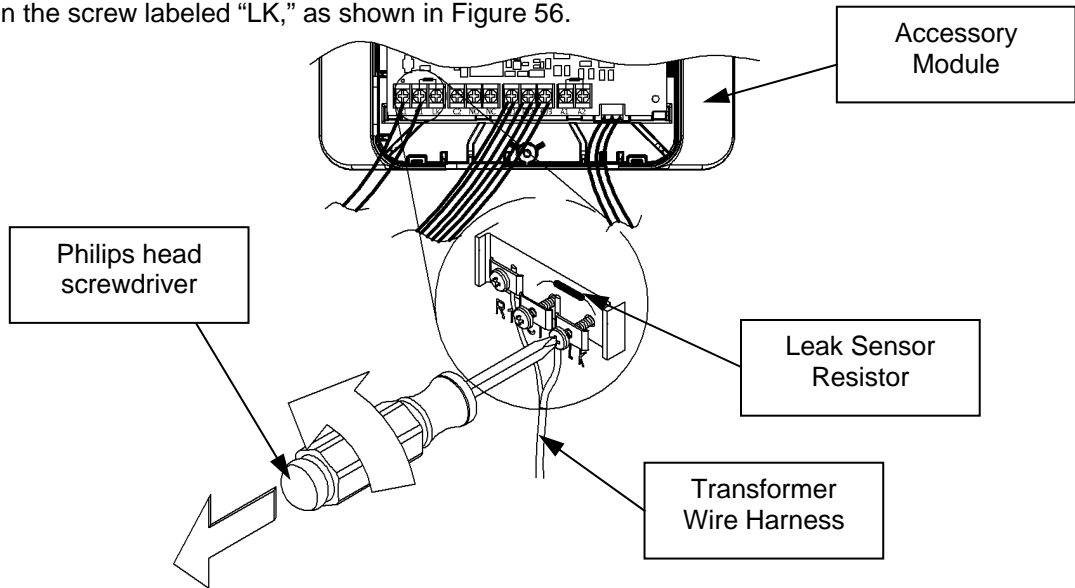

Figure 56
Step 5: Loosen the screw labeled "LK," as shown in Figure 56.